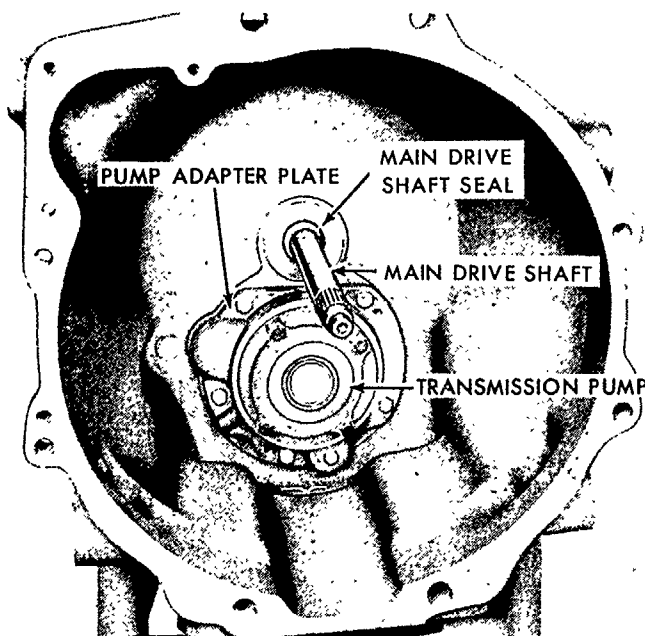

Figure 89
1. Remove the pump, Figure 89, and gasket by removing the four mounting bolts. Tap the pump with a soft-faced hammer and slide it from the shaft.